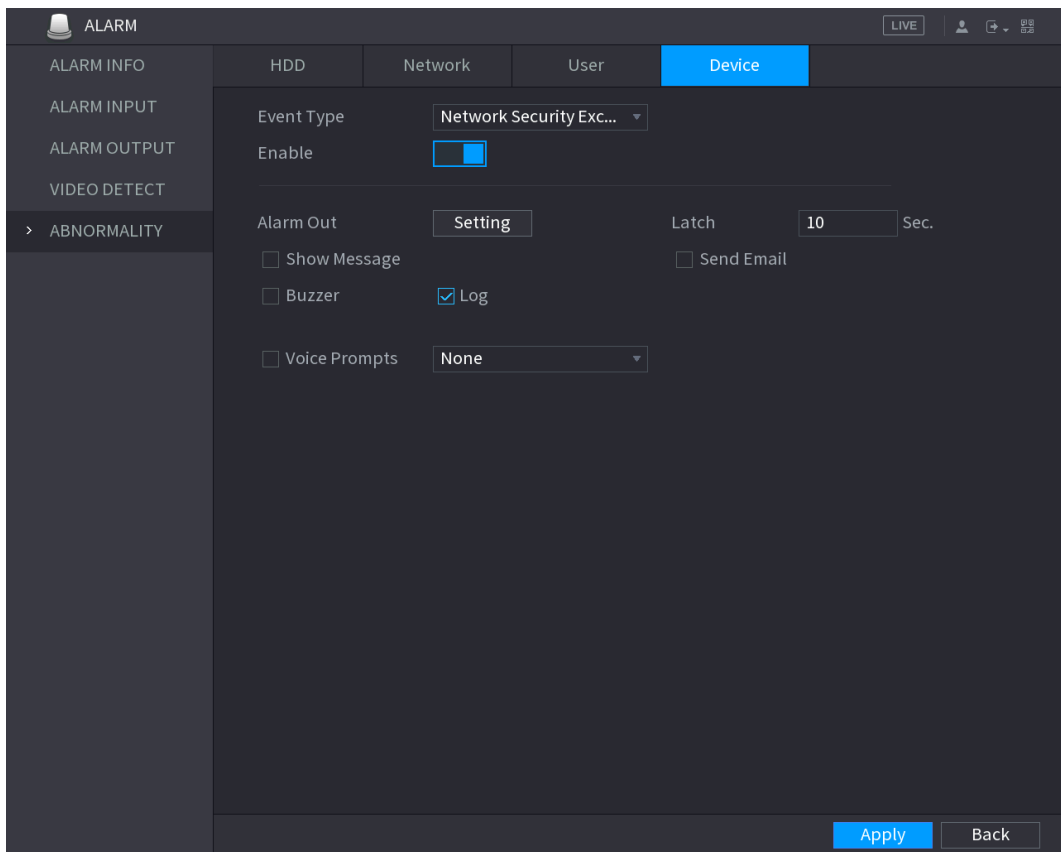

Figure 5-140
Step 2 In **Event Type** drop-down list, select **Network Security Exception.** See Figure 5-140.